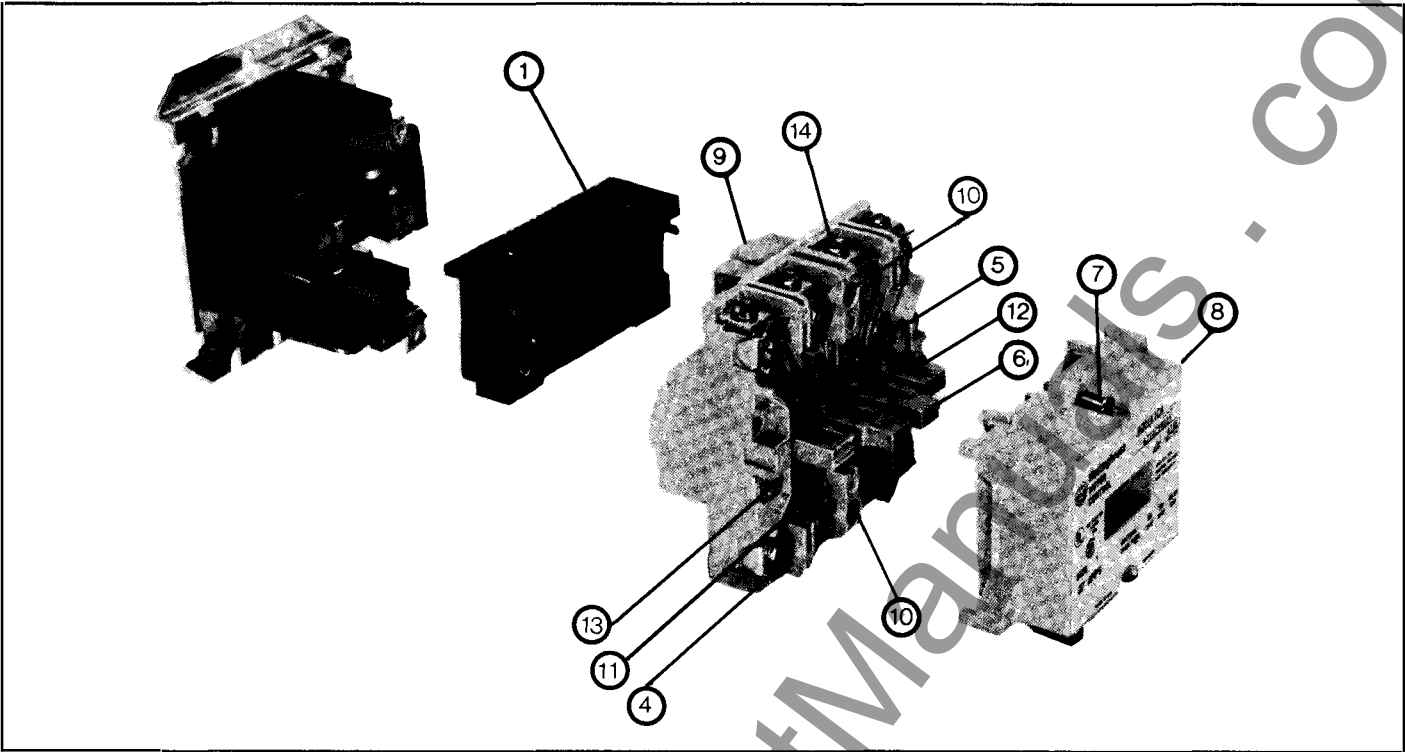

Fig. 8 Size 1 Contactor
Refer to Figure 8. Loosen the two arc box assembly screws (7) located immediately above and below the nameplate and remove the arc box (8). Contacts (5) are visible. Retighten the screws per Table V.
Refer to Figure 8. Loosen the assembly screws (10) located to the immediate top and bottom of the arc box. Remove connector straps to the overload relay. Pull the loosened upper base structure (9) forward. Pull the coil (1) from the upper base, plug in a new coil, replace the upper base structure and check the auxiliary contacts